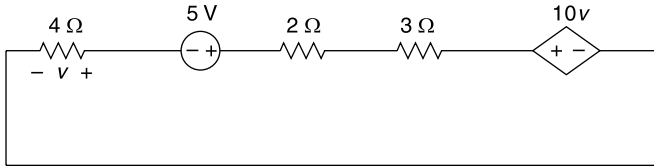

Fig. 14.30
14.58 In the circuit shown in Fig. 14.30 determine the power absorbed by each element of the circuit.